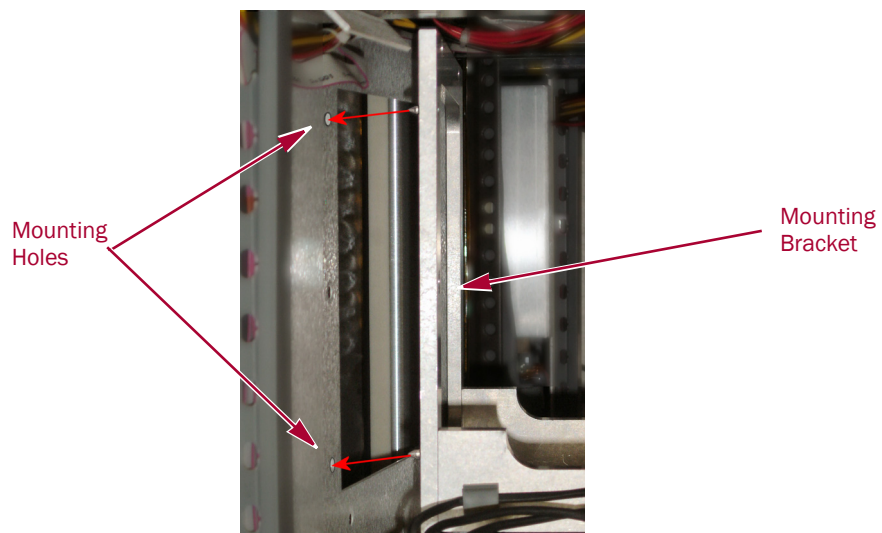

Figure 3-3: Positioning the Mounting Bracket Assembly
4. Position a Mounting Bracket assembly against the **Master front bulkhead** with the assembly alignment pins in the bulkhead holes (see Figure 3-3).